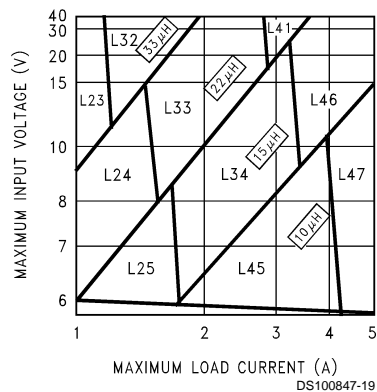
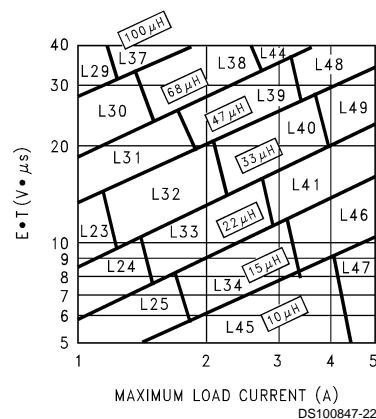

FIGURE 3. LM2679-3.3
FIGURE 6. LM2679-ADJ
Step 3: Determine the inductor required by using one of the four nomographs, *Figure 3* through *Figure 6*. Table 1 provides a specific manufacturer and part number for the inductor.
Step 5: Determine an input capacitor from Table 4 for fixed output voltage applications. Use Table 2 to find the specific capacitor type. For adjustable output circuits select a capacitor from Table 2 with a sufficient working voltage (WV) rating greater than $V_{in\ max}$, and an rms current rating greater than one-half the maximum load current (2 or more capacitors in parallel may be required).
Step 3: Use the nomograph for the 3.3V device, *Figure 3*. The intersection of the 16V horizontal line ($V_{in\ max}$) and the 4A vertical line ($I_{load\ max}$) indicates that L46, a 15 μ H inductor, is required.
Step 3: To use the nomograph for the adjustable device, Figure 6, requires a calculation of the inductor Volt•microsecond constant ($E \cdot T$ expressed in $V \cdot \mu\text{S}$) from the following formula:
Using Figure 6, the intersection of $27V \cdot \mu\text{S}$ horizontally and the 3.5A vertical line ($I_{load} \text{ max}$) indicates that L48, a 47 μH inductor, or L49, a 33 μH inductor could be used. Either inductor will be suitable, but for this example selecting the larger inductance will result in lower ripple current.
Important Note: When using the adjustable device in low voltage applications (less than 3V output), if the nomograph, Figure 6, selects an inductance of 22 μH or less, Table 6 does not provide an output capacitor solution. With these conditions the number of output capacitors required for stable operation becomes impractical. It is recommended to use either a 33 μH or 47 μH inductor and the output capacitors from Table 6.